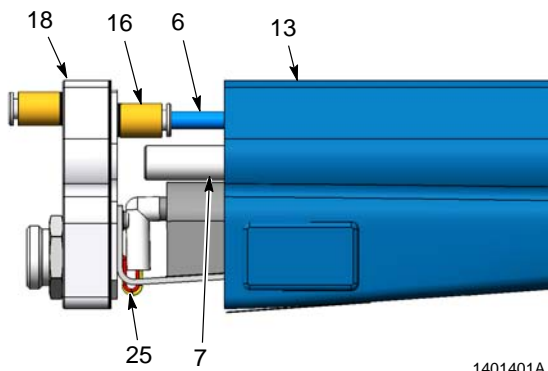

Figure 9 Connecting Air Tubing and Installing Heat Sink in Housing
8. See Figure 9. Connect the air tubing (6) to the internal connector (16), then push the heat sink (18) back up against the housing while fitting the powder tube (7) through the heat sink. Make sure the harness wires (25) are not pinched between the housing (13) and the heat sink.